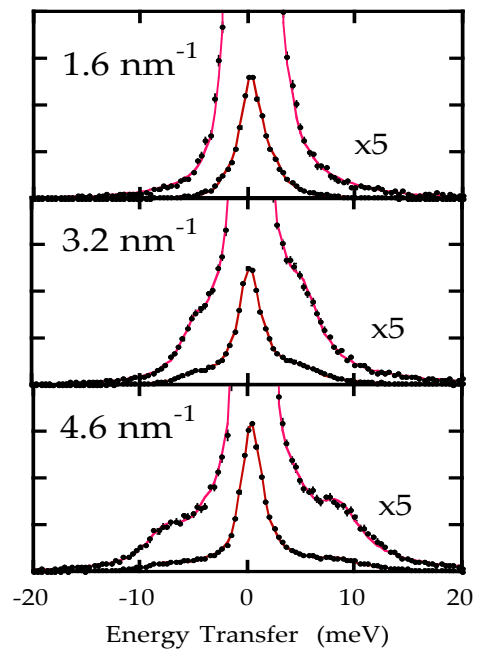

Figure 4. Inelastic scattering from water at the indicated momentum transfers. The red lines are fits to the data
The phonon dispersion was reported some years ago by inelastic neutron scattering, and is shown in figure 4 as a plot of the phonon frequencies at different momentum transfers - these are essentially the peak positions in measurements of  $S(\mathbf{Q}, \omega)$ . Modes that go to zero frequency at zero momentum transfer are acoustic, corresponding to the usual longitudinal and shear sound modes. Generally, for acoustic modes, the two atoms in a primitive cell will move together, in phase with each other, for acoustic modes. The high energy modes are optical modes, where the two atoms tend to move opposite each other. Recently, superconductivity was discovered in boron-doped (B-doped) diamond at low temperature [5]. Correlation between its superconductivity and phonon response has been demonstrated.
**Figure 4.** Phonon dispersion in diamond at room temperature investigated by inelastic neutron scattering. Markers show the experimental data points, and solid lines show the calculated results based on a shell model [4].
Figure 4, below, shows data from water at several momentum transfers. There is a strong central peak, with wings on the side that are the phonons, analogous to the longitudinal acoustic modes in diamond. Here however, one can note several differences: